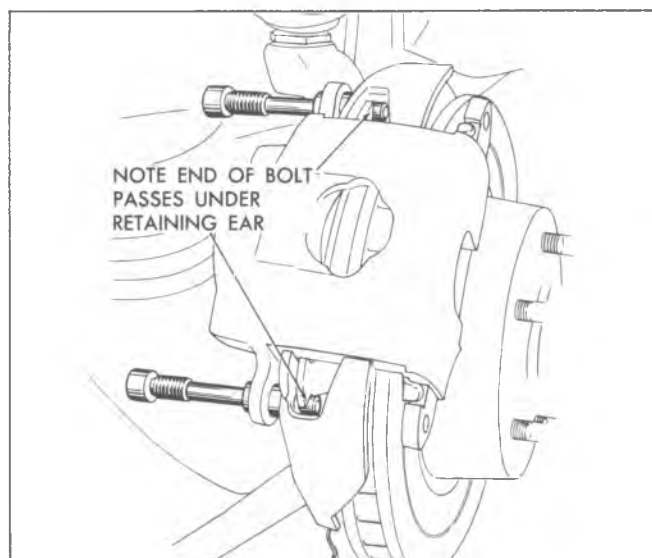

Fig. 29—Caliper Removal and Installation
4. Remove the two mounting bolts which attach the caliper to the support (fig. 29).
bolts pass under the retaining ears on the inboard shoe (fig. 29).